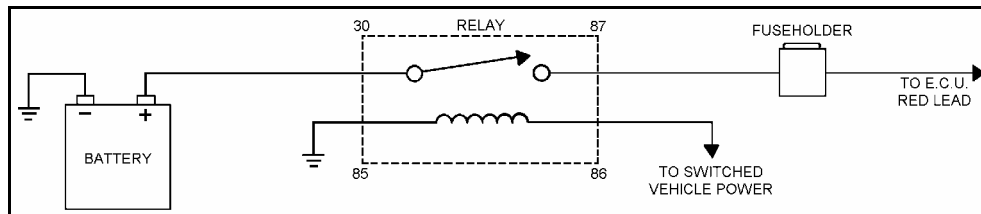

Figure 8
- 1 - Locate the single red wire in the wiring harness, the power relay, the fuse holder cable assembly, and four (4) female quick disconnect terminals from the assorted terminal package.
- 2 - Mount the relay on the firewall with a self tapping sheet metal screw. (Screw is not included) Connect a 16 gauge stranded wire from the positive terminal of the battery to terminal position 30 on the relay. Terminate the wire with a female quick disconnect terminal and then plug the terminal into the relay. See Figure 8.